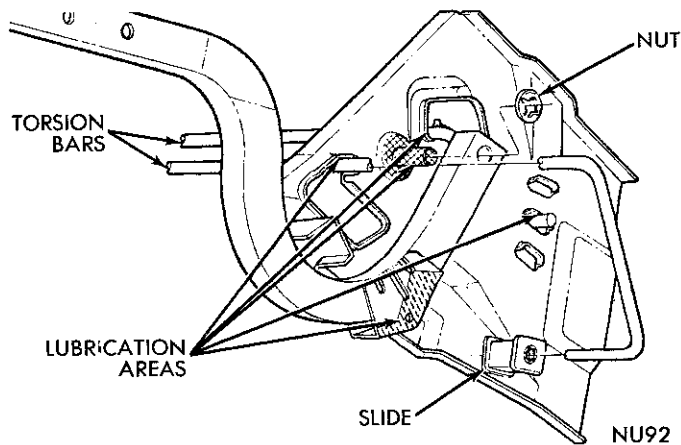

Fig. 101—Deck Lid Torsion Bar
(1) Remove deck lid assembly and disengage torsion bar from hinge (Fig. 101) being removed.
(1) Remove torsion bar (Fig. 101) from adjustment slot.
(2) Push bar out of roller in hinge arm and remove from hinge support.